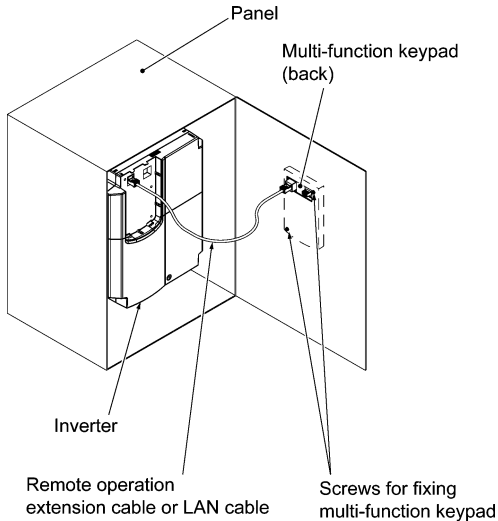

Figure 2.2 Mounting the Multi-function Keypad on the Panel
- Mounting it on the panel (see Figure 2.2).